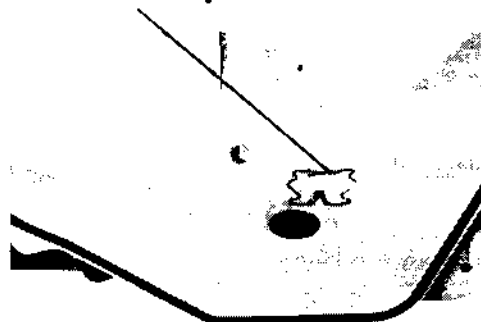

Fig. 3-39
2. When reinstalling the heater element, be sure it is inserted properly in the retainer inside the tub. (Fig. 3-39)